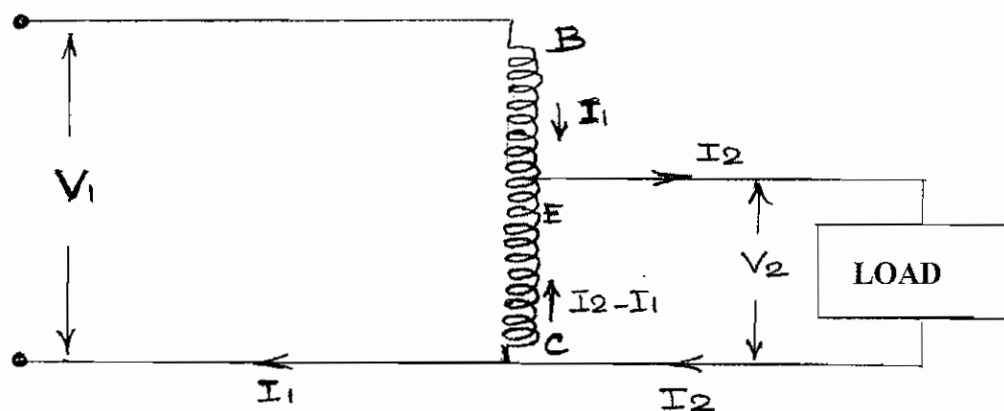

Fig : 8.8 Step Down auto Transformer
An auto transformer is a one winding transformer. Consider a single winding BC of N_1 turns wound on an iron core as shown in Fig : 8.8.
Fig : 8.8. shows a step down auto transformer. V_2 is less than the input voltage. If core loss, Copper loss, magnetizing current and leakage reactance core neglected,
The current I_2 is greater than I_1 . The distribution of currents are indicated in Fig : 8.8.
- ii) If there is an open circuit between points E and C (Fig: 8.8) the full primary voltage would be applied to the load on the secondary side.